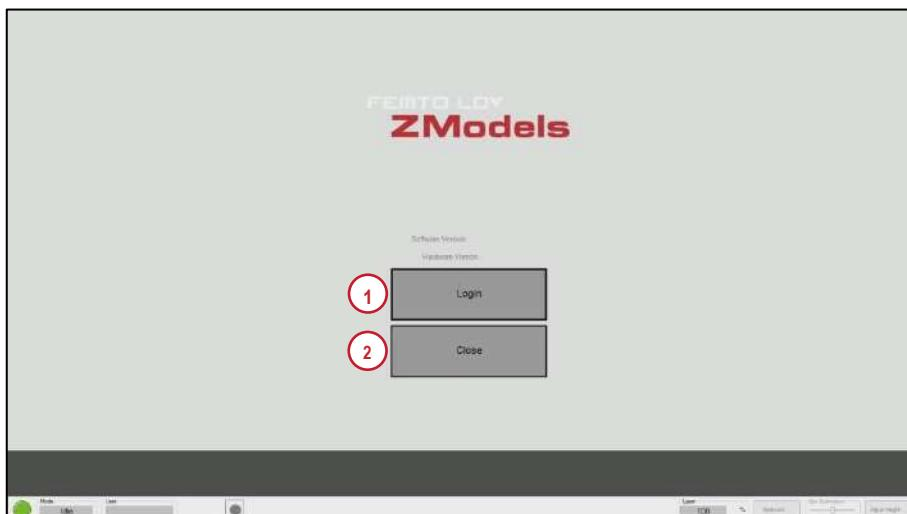

Figure 13: Start screen.
- 1 Click on the **Next** button when active (time remaining = 0 seconds), to proceed to the "Start" screen of the Cornea SW Application (Figure 13).